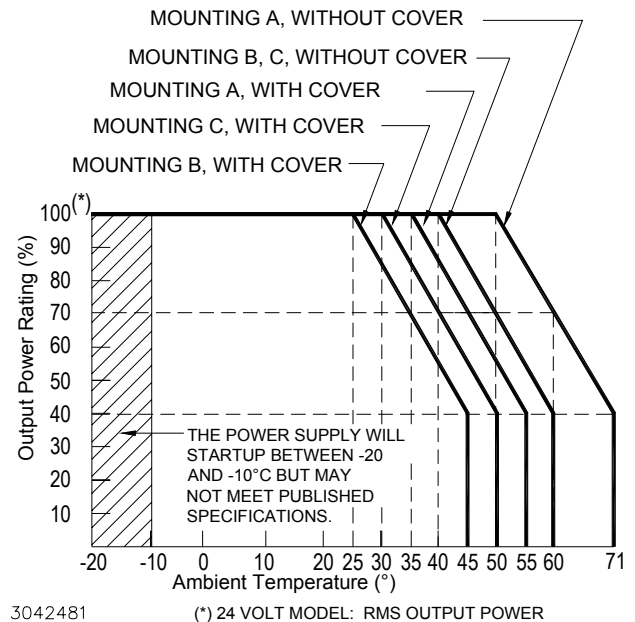

FIGURE 1. OUTPUT POWER VS. TEMPERATURE
OPERATING TEMPERATURE: -10 to 71°C (start up -20 to -10°C). See the derating, Figure 1. Do not allow the power supply to become dust covered because that will decrease the cooling efficiency of the unit and cause insulation to deteriorate.
MOUNTING THE POWER SUPPLY: Refer to Figures 4 and 5. The unit may be mounted on one mounting surface. Note the restrictions for maximum penetration of mounting screws. The air surrounding the power supply must not exceed the ambient values given in the graph in Figure 1.
2. REFER TO FIGURE 1 FOR OUTPUT POWER VS. TEMPERATURE FOR MOUNTING METHOD SELECTED.